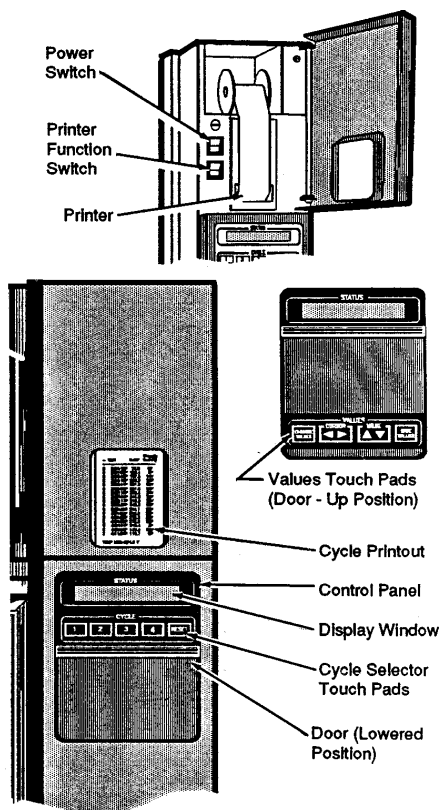

Figure 4-2. Turn Power On
4.2 Automatic Operation: Gravity Cycle (Wrapped and Unwrapped Goods) (See Figure 4-2)